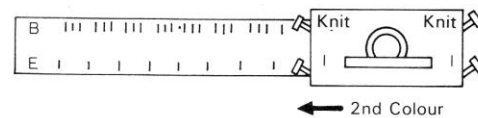

Fig.77
Bring forward into position (E) every 4th needle starting from 2nd needle from right end. (Fig.77)